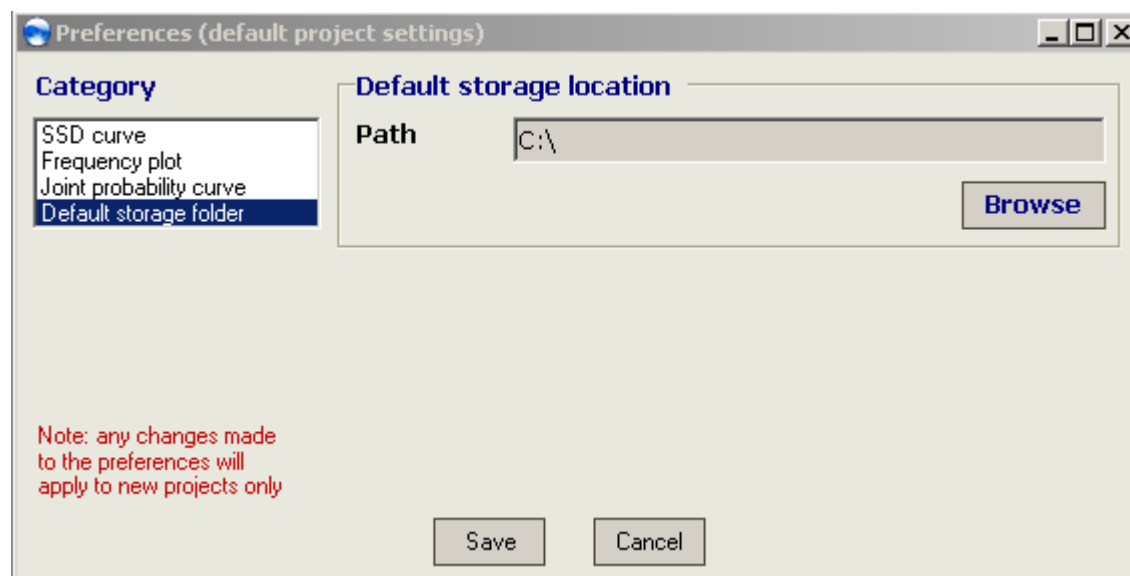

Figure 25. The default file storage location - dialog box.
- Click on **Default storage folder** in the **Category** box. The box shown in Figure 25 appears.